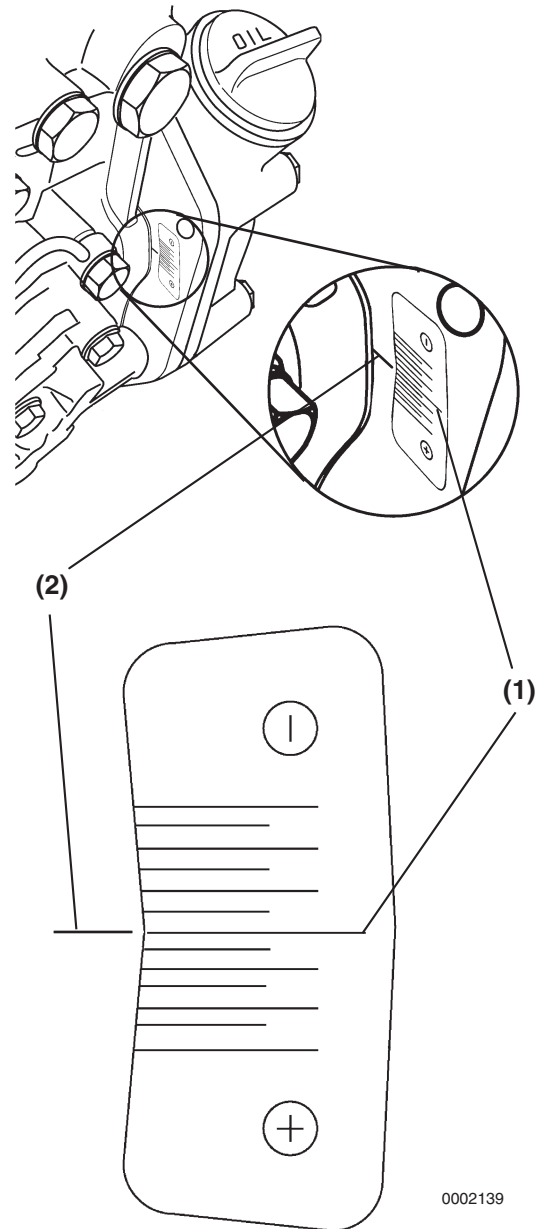

Figure 7-24
- Reinstall the timing grid sticker, provided with the new fuel injection pump, onto the back of the gear case / front plate (**Figure 7-24**). Align the “standard mark” (**Figure 7-24, (1)**) with the reference mark (**Figure 7-24, (2)**) made on the gear case during disassembly.